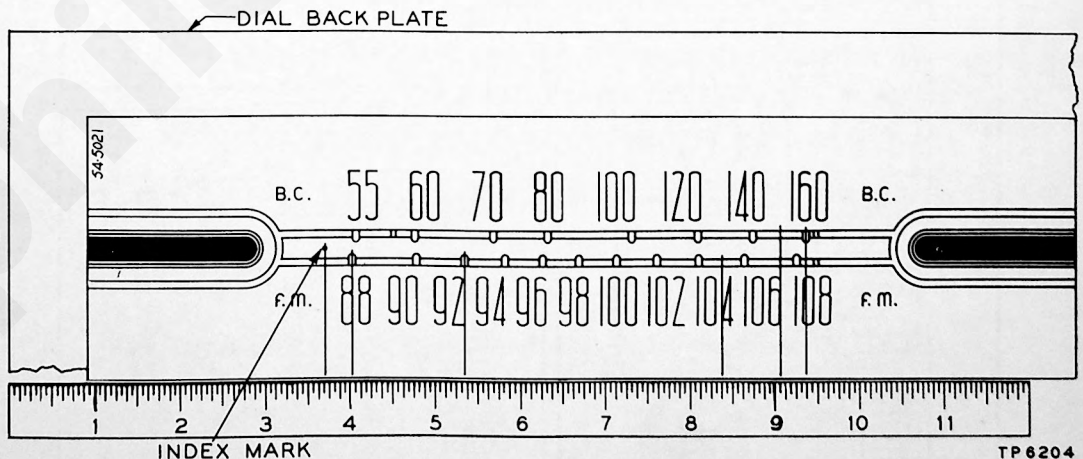

Figure 1. Dial-Backplate Calibration Measurements
**DIAL POINTER**—Calibration and pointer-index measurements are shown in figure 1. With tuning gang fully meshed, set pointer to index marker.